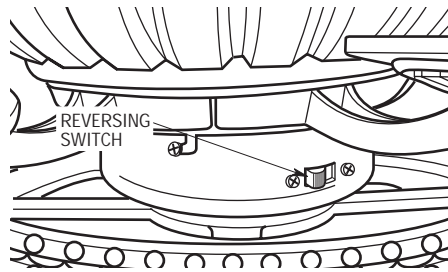

Figure 24
- 6. If airflow is desired in the opposite direction, turn the fan off and wait for the blades to stop turning. Then slide the reversing switch to the opposite position (Figure 24) and turn the fan on again. The blades will turn in the opposite direction and reverse the airflow.